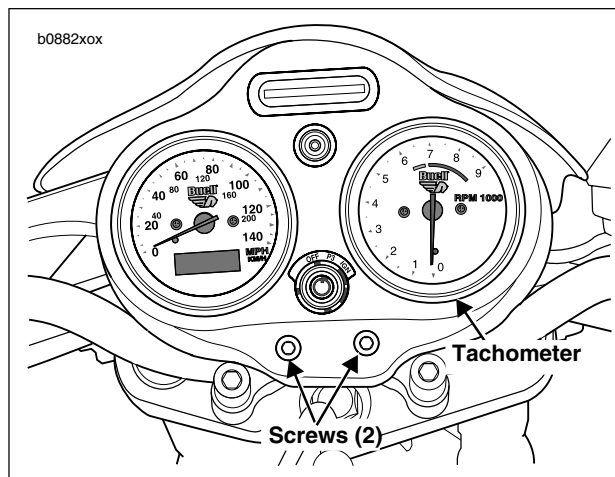
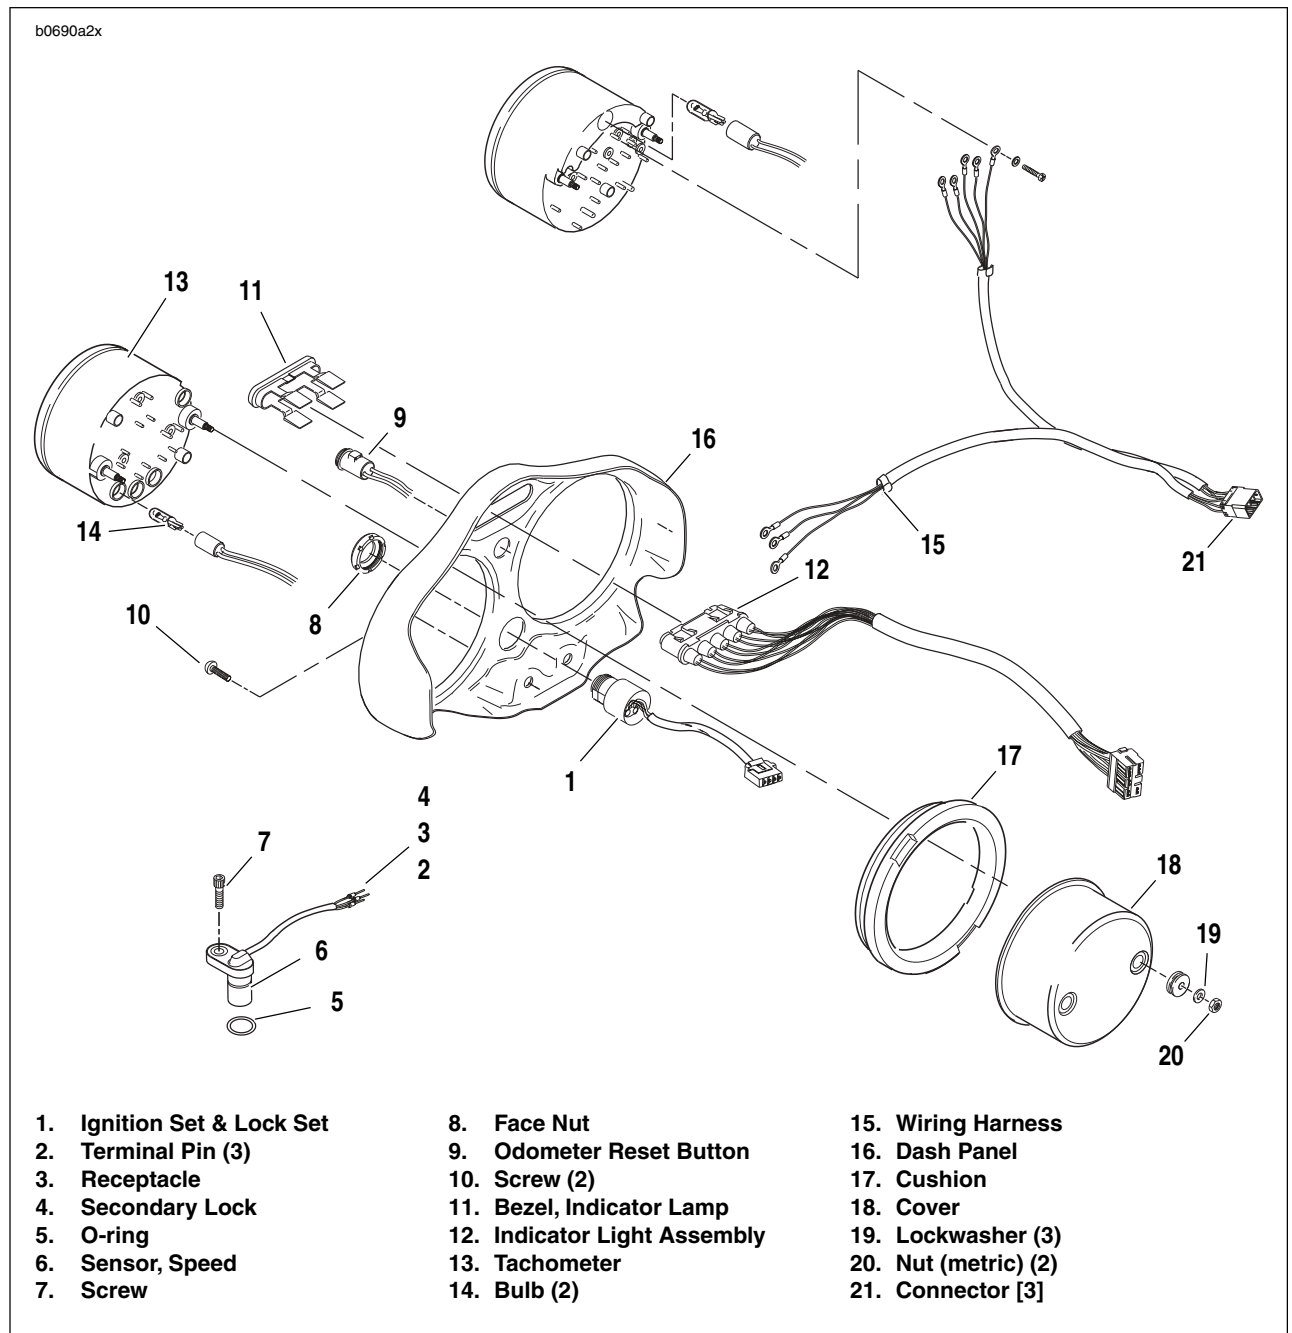

Figure 7-89. Dash Panel (Front)
Figure 7-91. Tachometer Assembly
2. See Figure 7-89. Detach instrument panel by removing two screws holding panel to instrument support clamp. Pull dash panel upward, but do not damage wiring.
4. See Figure 7-91. Install tachometer cover (18).
- b. Apply LOCTITE THREADLOCKER 243 (blue) to both nuts (metric) (20).
- c. Fasten cover (18) to tachometer using two nuts (metric) (20) and lockwashers (19).
5. See Figure 7-89. Position dash panel on instrument support clamp.